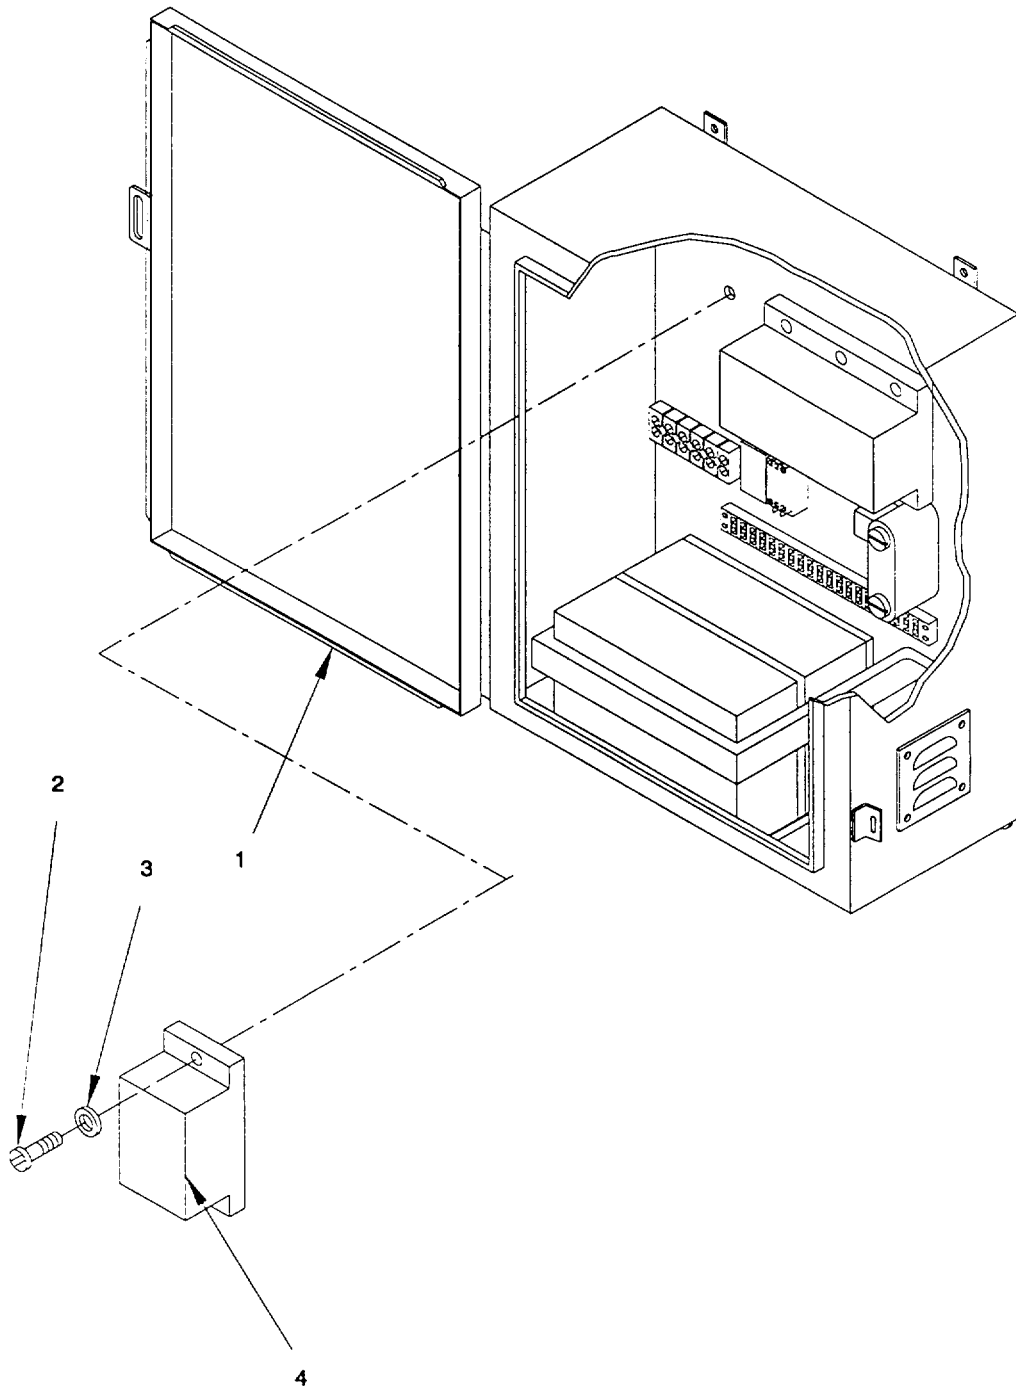

Figure 2-77. Voltage Regulator, Pump-Jet Direction/Auxiliary Battery Junction Box "A9", Remove/Install.
a. *Remove.* (figure 2-77)
- (1) Open enclosure door to access interior of junction box (1).
- (2) Disconnect electrical wiring to junction box A9 (1) and tag OUT OF SERVICE.
- (3) Remove two pan head screws (2) and collect flat washers (3) freeing voltage regulator (4).
b. *Install.* (figure 2-77)
- (1) Position voltage regulator (4) in junction box A9 (1) and secure with two pan head screws (2) and flat washers (3).
- (2) Connect electrical wiring to junction box A9 (1). Refer to Appendix G.
- (3) Close door to junction box (1).